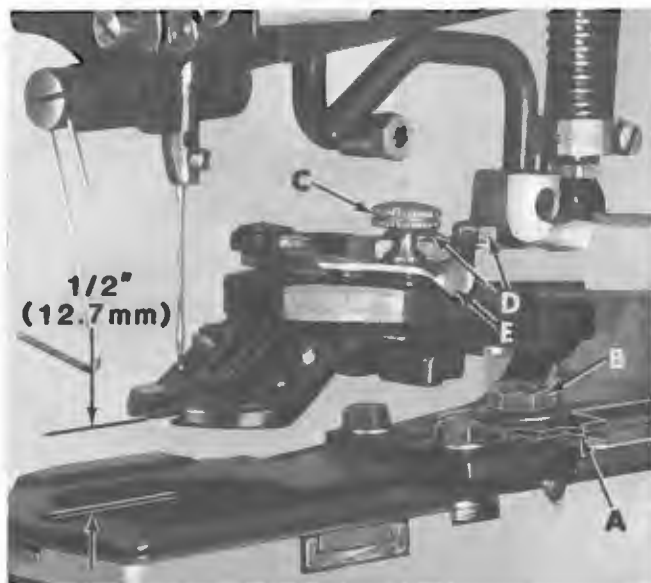
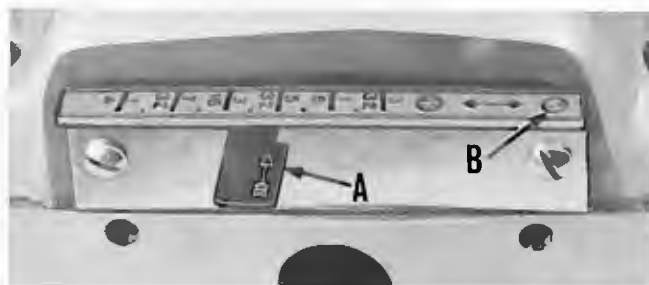
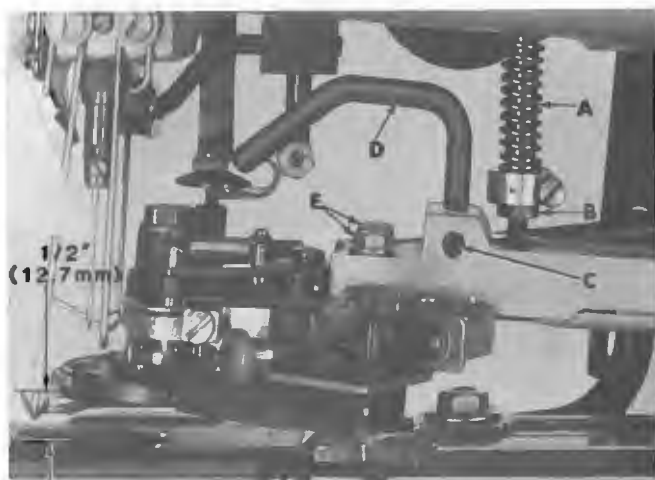

Fig. 32
Fig. 33
Fig. 34
Measure the distance between the two holes of the button (from center to center). Then set the indicator (A, Fig. 32) to corresponding dimension on the graduated scale by loosening nut (B). Move selector lever (A, Fig. 33) at rear of the machine to the two hole position (B).
Repeat the procedure for the two hole button except move the selector lever (A, Fig. 33) at rear of machine to a dimension on the graduated scale corresponding to the distance between the button holes.
NOTE: The stitch can be tightened on buttons having large holes by decreasing the lateral clamp travel—set indicator (A, Fig. 32) to a smaller dimension on the graduated scale.
Loosen screw (C, Fig. 32) and move the stop lever (E) as required.
Now, place a button into the clamp jaws (200-45) or button holder (200-38) so that the button holes correspond to the needle travel across the arm. Engage the machine into RUN POSITION and rotate the pulley in operating direction until the needle has penetrated all the holes in the button. The needle should enter the center of each hole. The button clamp may be shifted slightly to obtain this condition by loosening screws (D, Fig. 32) on 200-45 or (E, Fig. 34) on 200-38. It may also be necessary to deviate slightly from the graduated scale dimensions previously used.
Machine is in STOP POSITION. The button clamp or holder should be adjusted so that the bottom is approximately 1/2 inch (12.7 mm) from the feed plate, (See Figures 32 and 34).
Loosen set screw (C, Fig. 34) and raise or lower rod (D) as required. Now engage machine into RUN POSITION. The clamp in down position must contact the feed plate and there should be clearance between the lifting rod (D) and the roller.
The stop pin is located inside the clamp tension spring (A, Fig. 34).
Loosen locknut (B, Fig. 34) and turn the lower section to lengthen or shorten the pin. Tighten locknut (B).